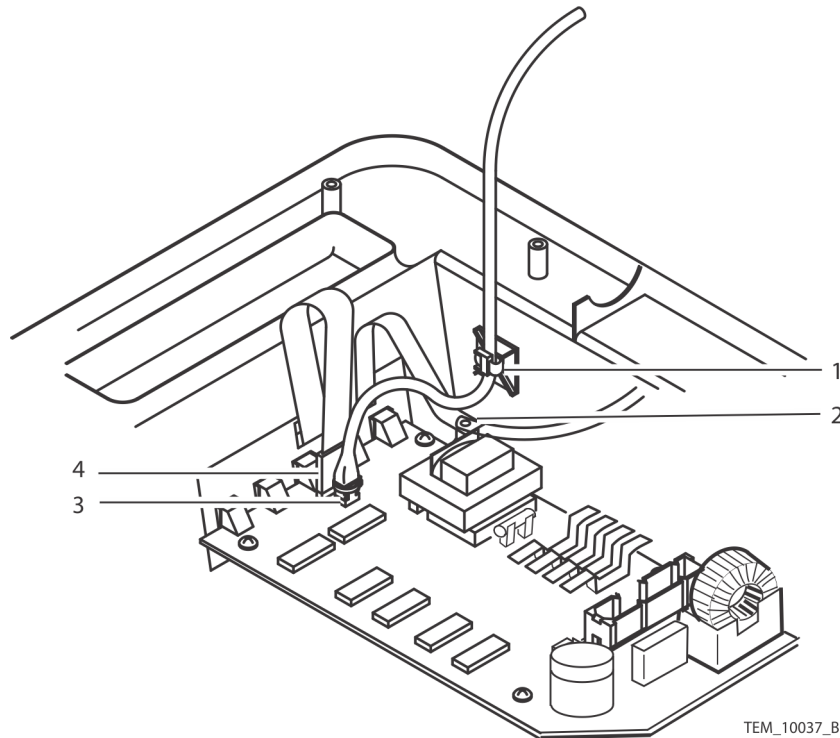

Figure 5-14. Cable Connections
18. Connect the ribbon cable connector (Figure 5-14, item 4).
19. Connect the thermistor cable connector (Figure 5-14, item 3).
20. Install the cable tie around the thermistor cable connector and Control PCB connector (Figure 5-14, item 2).
21. Connect the key pad grounding strap and blower ground wire. See Figure 5-14, item 2. Tighten the screw to 4 to 6 in/lbs (10 to 15 cm/kg).
22. Install the cable tie around the thermistor cable and the cable tie mount (Figure 5-14, item 1).